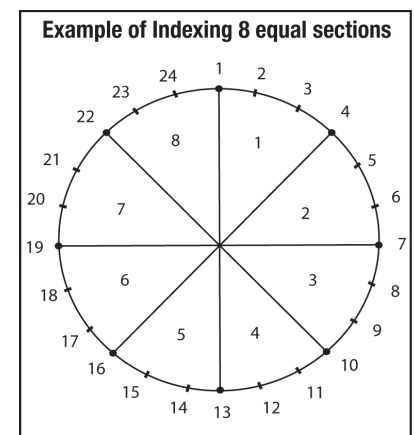

Fig. 2
- Advance and withdraw the index pin and rotate the index wheel to the indexing positions necessary (see fig 2).